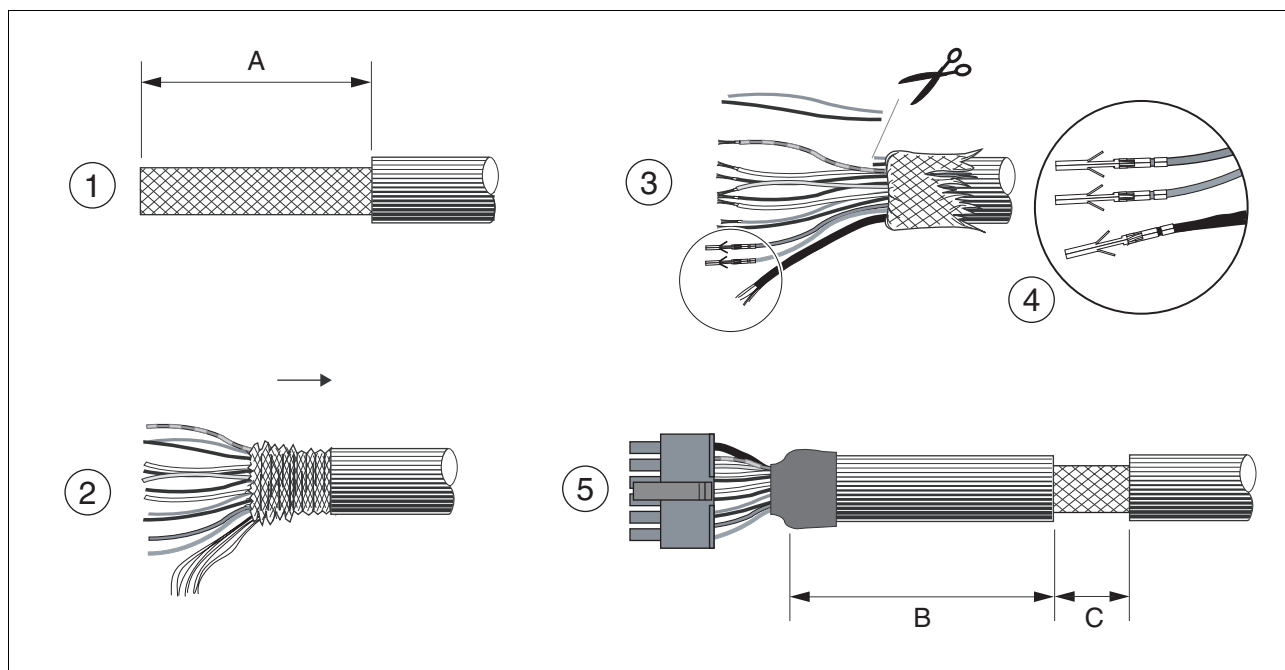

Figure 6.13 Steps (1-5) for fabrication of the sensor cable
- Use prefabricated cables to minimise the risk of a wiring error (from page 12-2). Step 5 in Figure 6.13 must be carried out even with pre-fabricated cable. The dimensions for positioning the shield on the housing are applicable when the included EMC plate is used.
- If you are not using prefabricated wiring, follow the procedure and the dimensions in Figure 6.13.